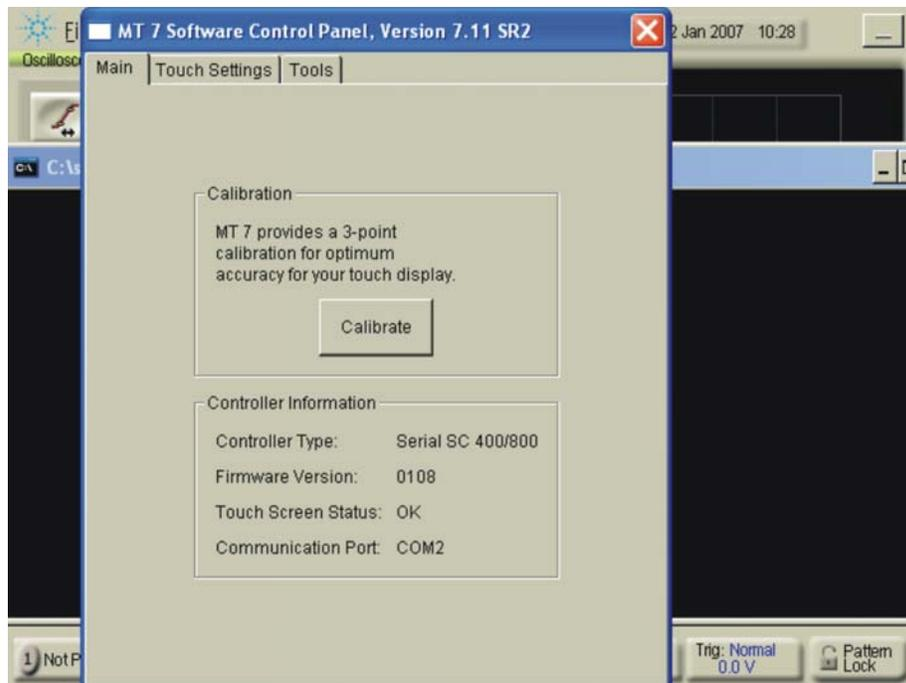
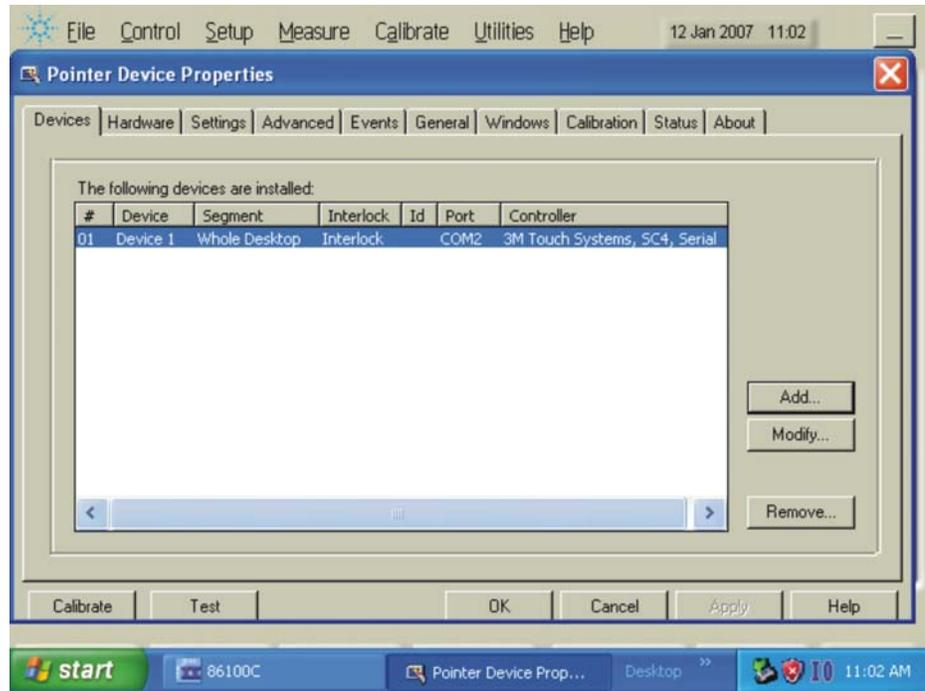

Figure 6-9. Touch Screen Driver for the 0960-2590 TS Controller
Figure 6-10. Touch Screen Driver for the older 1150-7826 TS Controller
- 46 You should see the screen as shown in Figure 6-9. If you see the old configuration screen as shown in Figure 6-10, then you may have to repeat the process to reinstall the new drives and redirect files.